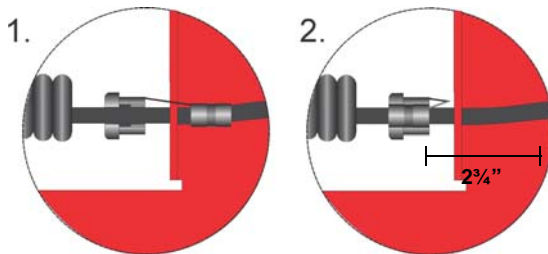

Figure 8: Installing Strain Relief Clip
3. Attach strain relief clip to microphone cord. The strain relief clip should have about $2\frac{3}{4}$ " of microphone cord through it. See Figure 8.